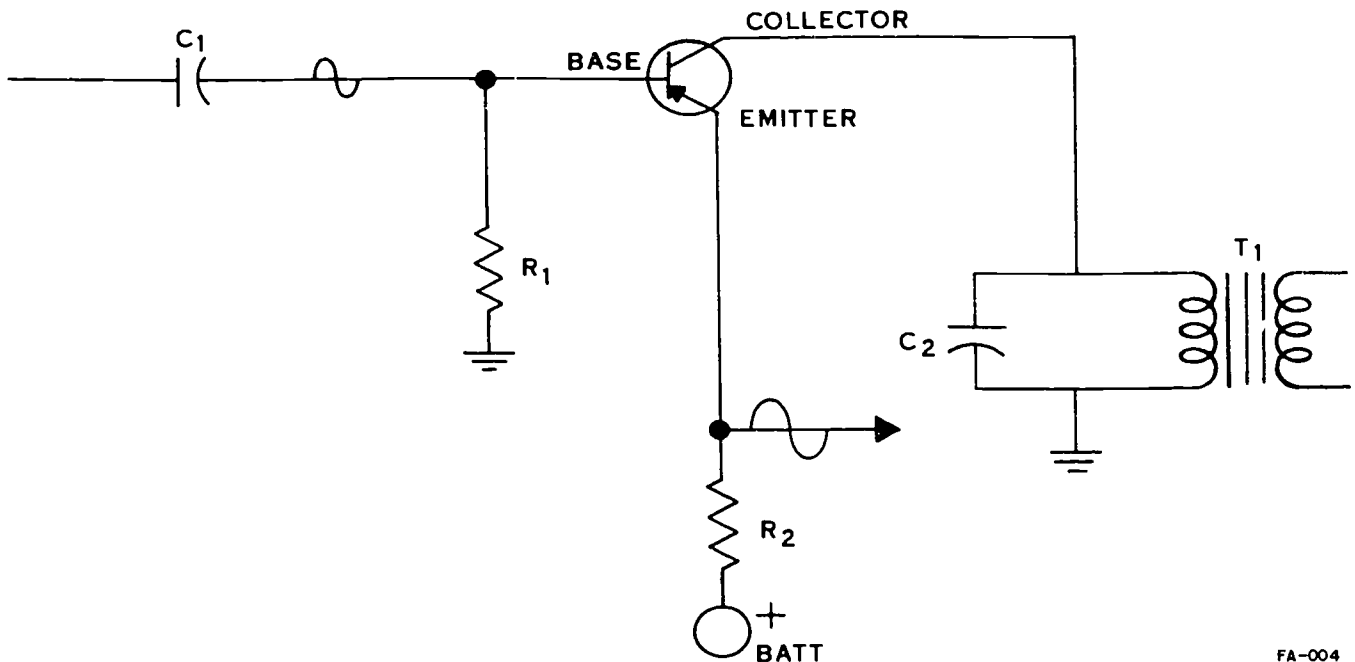

Figure 6-4. Common-collector amplifier schematic diagram.
circuits. For instance, it is useful as an impedance matching unit. Figure 6-4 shows the collector connected to ground and the emitter with a positive potential when compared to the collector. Likewise, the input signal from the preceding stage is applied to the base. This amplifier stage compares with the common-base amplifier in having no reversal of phase between the amplifier input and output. It is easily seen, too, that the output signal can be taken from the emitter. A negative input signal at the base of the transistor of figure 6-4 results in an increase in current at resistor R2. Consequently, the voltage drop at the resistor is greater following the signal application than it had been before the employment of negative signal. Accordingly, the increased voltage at the resistor results in a more negative output signal. Thus, an emitter voltage change follows directly the base voltage change. We can see the basis, then, for referring to the transistor as an emitter-follower amplifier.
2. Name the two symbols of figure 6-5 that could be used with the circuit in figure 6-4.